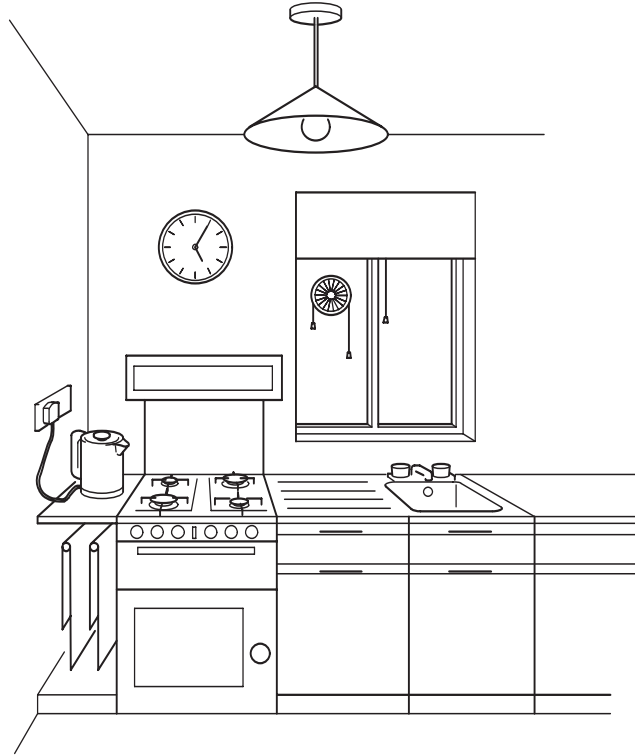

Fig. 3
- 5 (a) Name **three** different types of energy source used in the kitchen shown in Fig. 3. state which product uses the energy source.